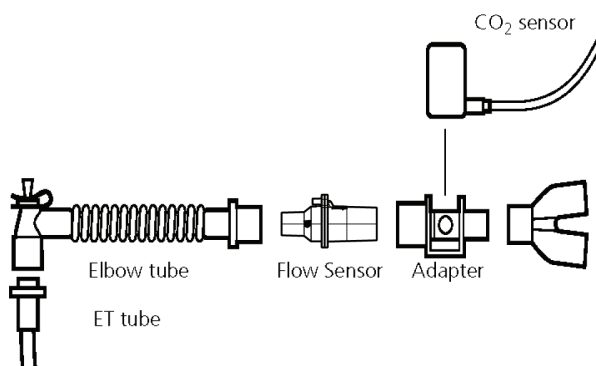

Figure 2-14. Connecting the CO₂ sensor/airway adapter to the patient circuit
3. Connect the sensor/airway adapter to the patient circuit as follows (Figure 2-14):